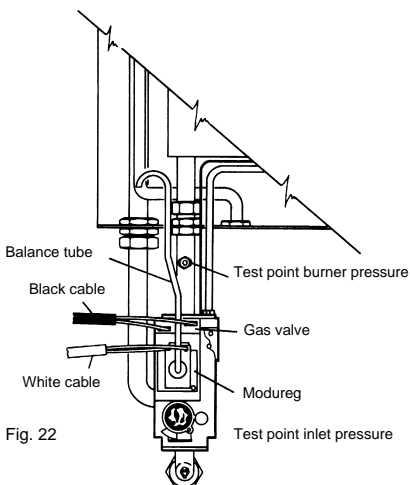

Fig. 22
- Loosen the screw in the burner pressure test point (fig. 22) and attach a gauge.